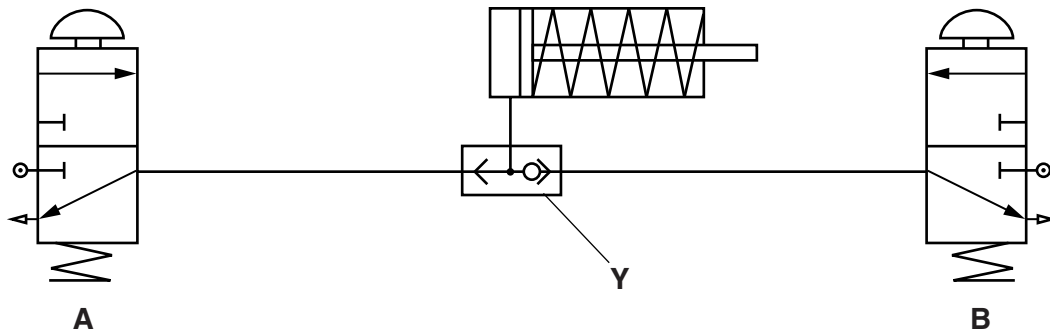

Fig. 7
4 Fig. 7 shows a pneumatic system.
- (a) (i) Name component Y shown in Fig. 7.
- (iii) Describe the operation of the circuit shown in Fig. 7.